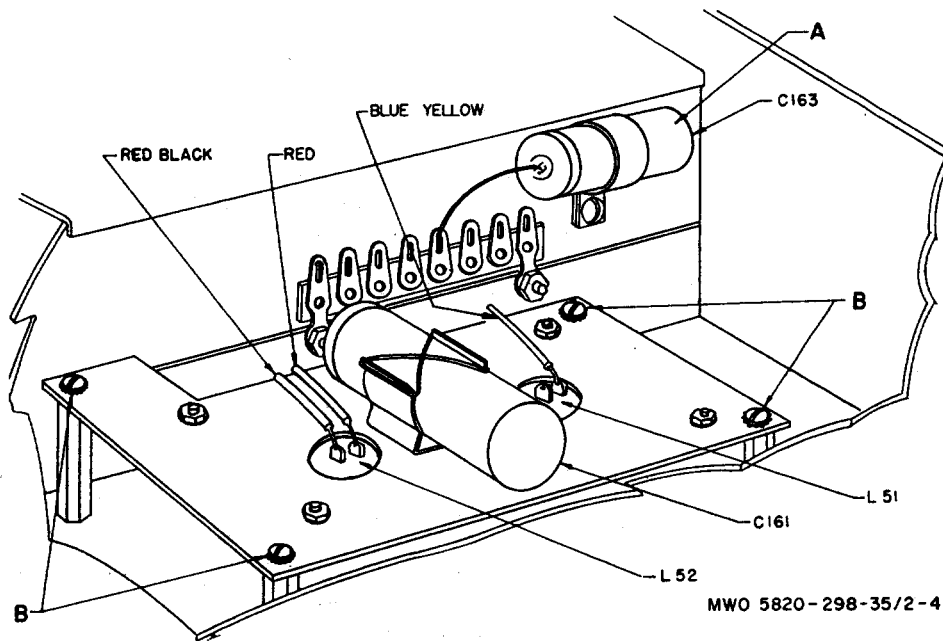

Figure 4. Original location of capacitor C163.
- modified for the presence of the .25 mfd capacitor (C163) in the position shown at A, figure 4. If one exists, remove it as explained below.
- (2) Remove the 15 screws and lockwashers that hold the bottom cover to the tuning unit housing and remove the cover.
- (3) Remove the screw, lockwasher, and nut that hold the capacitor to the tuning unit housing and remove the capacitor.
- (4) Unsolder and remove the five leads connected to the power filter-choke subassembly. Tag the leads for identification.
- (5) Remove the four screws and lockwashers, shown at B, figure 4, that hold the power filter-choke subassembly to the chassis and lift the subassembly from the chassis. This will permit access to terminal board E13, and to the leads, for removal and replacement with the new terminal board E13.
- (6) Unsolder and remove all the leads from old terminal board E13.
- (7) Remove the nuts and lockwashers from the two screws that hold the old terminal board E13 to the chassis and remove the terminal board.
- (8) Mount new terminal board E13 in the position previously held by the old terminal board, using the original screws, lockwashers, and nuts.